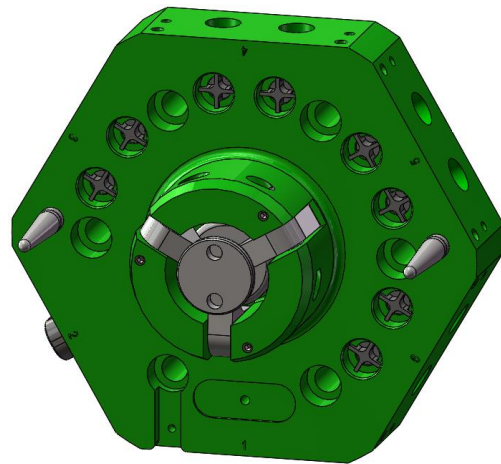

Figure 6.1-2. Robot Side Uncoupled (Cams Retracted)
3. Supply control power to the solenoid valve and supply the signal from the controller/PLC to move the valve to the uncoupled (solenoid energized) position. The cams should retract to the uncoupled position (Figure 6.1-2) and the input from the uncoupled sensor should be received by the robot controller/PLC.